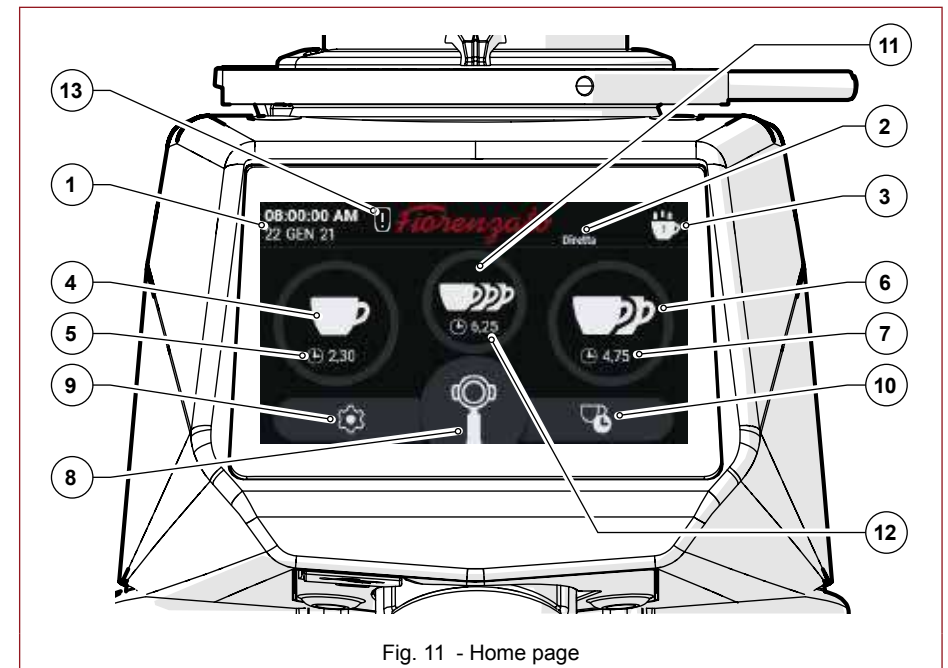

Fig. 11 - Home page
Fig. 11 shows the HOME page with a description of the function buttons and display fields. The HOME page can be customised from the 'Settings menu', therefore the image shown in the figure below may differ from the screen actually displayed on your appliance when it is first switched on.
With reference to Fig. 11, the display fields and function buttons on the HOME page are:
The Settings menu is accessed by pressing the function button , always visible in the bottom left-hand corner of the display (see Fig. 11 Part. 9). Once the command has been given, the display will load the menu, allowing you to select the parameter to be changed and/or the function to be activated/deactivated by simply scrolling down the list of possible options until you find the option you require. The Settings menu contains the following items:
Select the dose required (single, double or triple dose, if enabled) by pressing the relevant function button (see Fig. 11 Part. 4, 6 or 11). The icon of the pressed button starts flashing to indicate that the selection has been made.
Press and hold the '**Manual Grinding**' button (see Fig. 11 Part. 8) to start continuous grinding. The grinding process stops automatically when the button is released.
Press the function button for a single, double or triple dose (see Fig. 11 Part. 4, 6 or 11); after the command has been given, the grinding of the required dose is started immediately.
In this operating mode, the activation microswitch is disabled and all the dose selection buttons (see Fig. 11 Part. 4, 6, 8 and 11) can be activated.
In this operating mode, manual grinding (see Fig. 11 Part. 8) and the single, double and triple dose selection buttons (see Fig. 11 Part. 4, 6 and 11) are disabled.
Select the required dose (single, double or triple, if enabled) by pressing the relevant function button (see Fig. 11 Part. 4, 6 or 11). When the selection has been made, the icon of the pressed button starts to flash to indicate that the selection has been made and remains activated until a different dose is selected. Press the activation microswitch with the filter holder cup (once) to start grinding the selected dose.
In this operating mode, manual grinding also (see Fig. 11 Part. 8) remains enabled.
- At the end of each dispensing process, the statistics counters are updated (see Fig. 11 Part. 3). In the statistics, the continuing grinding process (see Fig. 11 Part. 8) corresponds to an increase of one single unit in the number of dispensing processes. The grinding cycles are stored in the memory even if the 'Show statistics' option is disabled in the Technical Settings menu.
When manual grinding (Fig. 11 Part. 8) is disabled, the relevant function button cannot be selected and is displayed in grey.
It enables (🟢) or disables (⚪) the 'Statistics' function button display on the HOME screen (see Fig. 11 Part. 3).